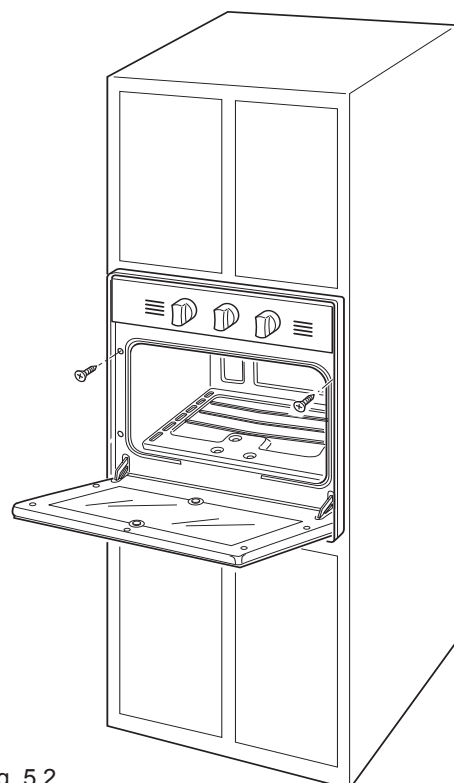

Fig. 5.2
For **SAFETY CONSIDERATIONS** the oven **SHALL BE FASTENED** to the cabinet with two (2) **SUITABLE** screws (supplied with the unit) through the holes in the trim (see fig. 5.2). The unit should be leveled properly before being secured to the cabinet.